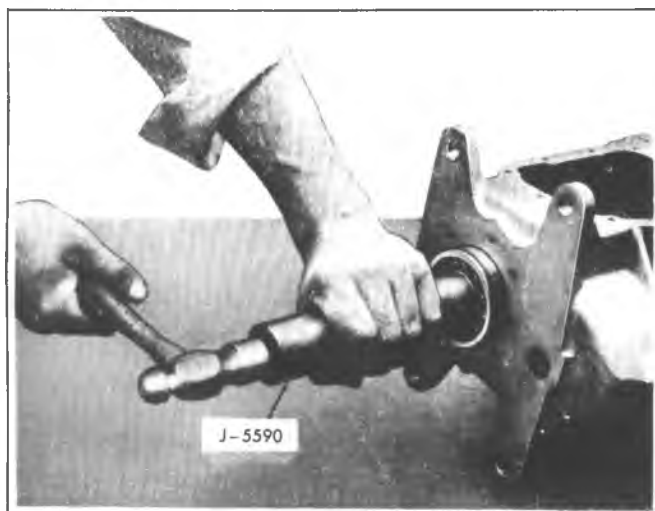

Fig. 7B-23K-Installing Front Main Bearing
4. Using a heavy grease install sixteen (16) roller bearings and washer into main drive gear. Mate main drive gear with mainshaft assembly. Position 3rd-4th clutch sliding sleeve forward. This will provide clearance for installation as well as hold the assembly together.
7. Place bearing snap ring on front main bearing. Position front main bearing to case opening and with a hollow shaft, or tool J-5590, tap bearing into case (Fig. 7B-23K). Install spacer washer and selective fit snap ring to secure main drive bearing.